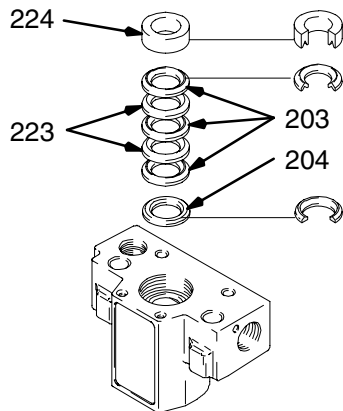

Fig. 12
Fig. 12. Soak all leather packings in SAE 30W oil for 1 hour minimum prior to assembly. Place male gland (204) in manifold. Alternately stack UHMWPE (203) and leather packings (223) (note orientation). Place female gland (224) in top of cylinder. Seat packings.